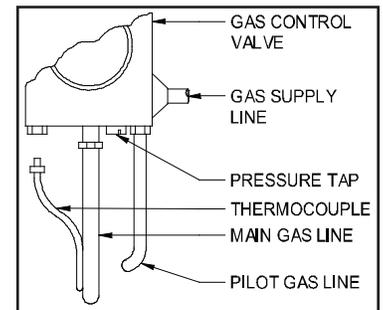

Figure 5
1. Remove pressure tap plug in gas valve. (See Figure 5) NOTE: If installing on an existing appliance, shut off gas supply to gas valve before plug removal.
1. Remove the thermocouple from the gas control valve. (See Figure 5)